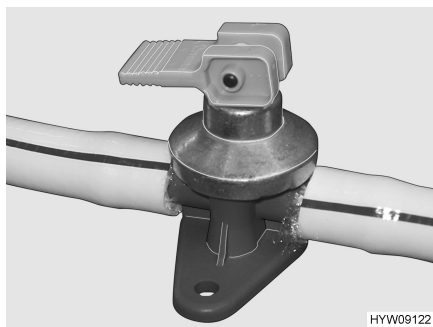
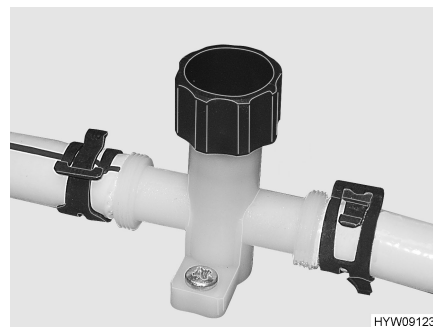

Fig. 74 Drain cock with rocking lever
Fig. 75 Drain cock with knob
- Open all drain cocks (Fig. 74 or Fig. 75).